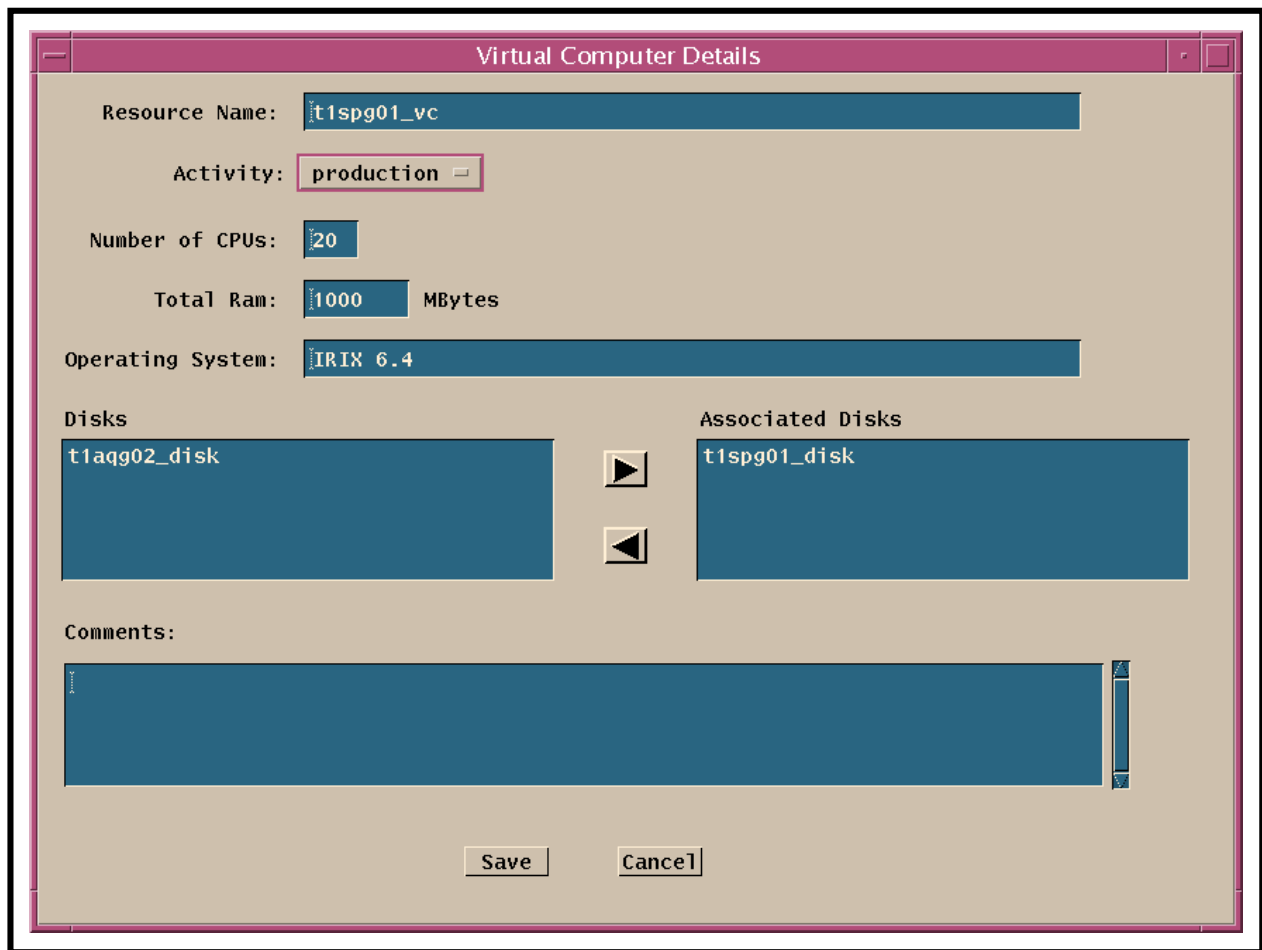

Figure 11. Virtual Computer Details GUI
- The **Virtual Computer Details** GUI displayed when the **New...** button on the **Resource Editor** GUI is clicked is similar to the **Virtual Computer Details** GUI (Figure 11) that is displayed when the **Modify...** button on the **Resource Editor** GUI is clicked.